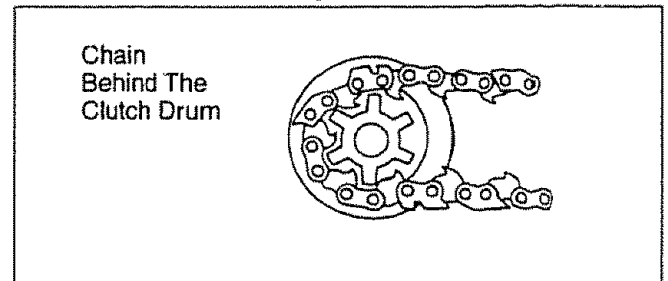

Figure 10
- Place chain over and behind the clutch drum, Fig. 10.